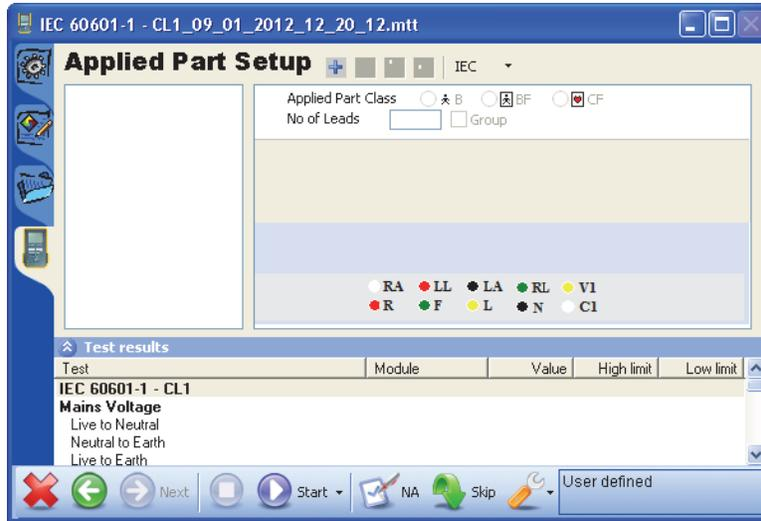

Figure 6-7. Applied Part Setup
3. Click the Applied Part Setup tab on the left side of the Test Guide to open and define that applied part. See Figure 6-7.